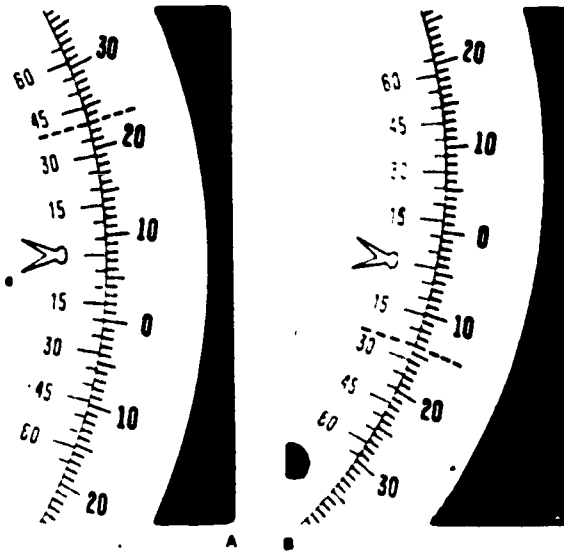

FIGURE 1
3. Slide the "0" on the vernier up or down the protractor until it lines up with the degree mark needed on the protractor (Figure 1-a)
(NOTE: The correct reading is $7^{\circ}40'$. The procedure is the same when reading negative (downward); in this case the reading is $4^{\circ}25'$. Refer to Figure 1-b.)